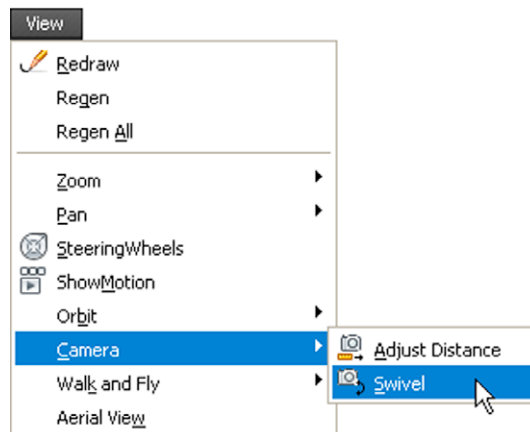

Fig. 15.47 Selecting **Camera/Swivel** from the **View** drop-down menu
4. If not satisfied with the scene it can be amended in several ways from the **Camera/Swivel** command (**View** drop-down menu) and its *right-click* menu (Fig. 15.47).